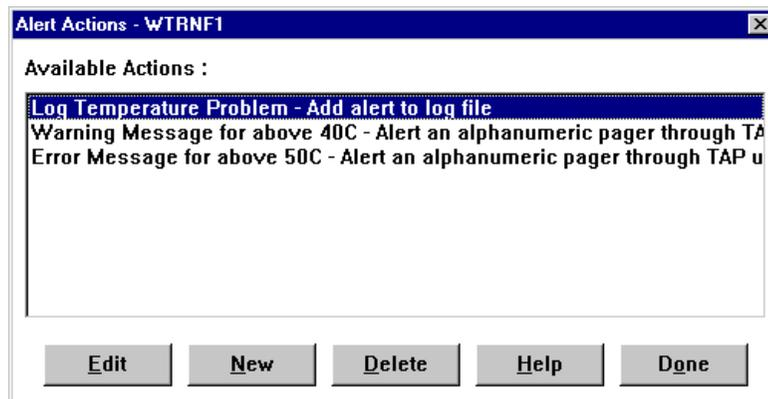

Figure 160. Alert Actions Defined
6. Add a new action of Log Temperature Problem and set the action to **Add alert to log file**. Figure 160 shows the three profiles now bound to these actions: